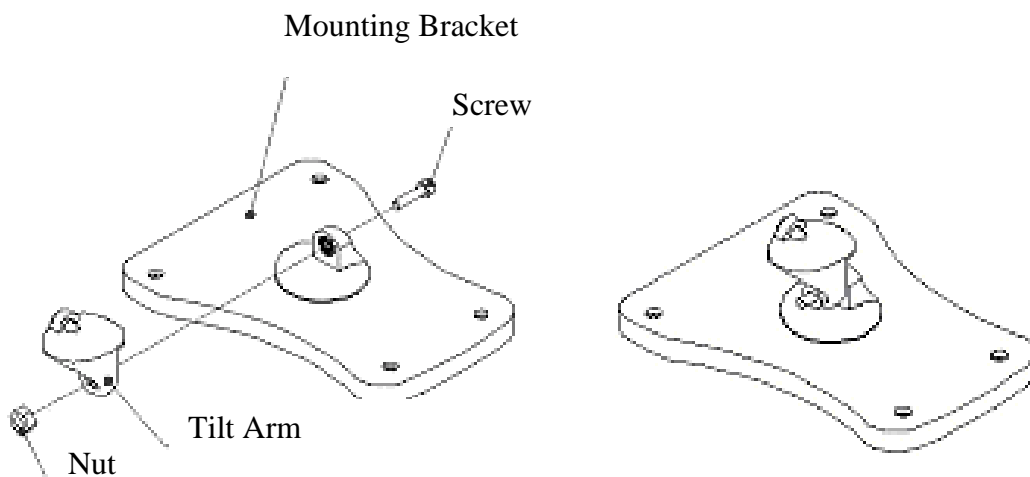

Figure 10-5: Mounting bracket assembly
2. Holding the nut in place, attach the tilt arm to the mounting bracket using a 4 mm socket head bolt. Hand tighten the bolt only. See Figure 10-5.